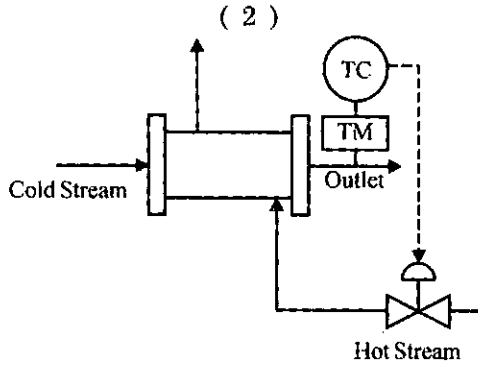

Fig. 1
- (d) Fig. 1 shows a heat exchanger control diagram. The objective is to maintain a desired cold stream outlet temperature.